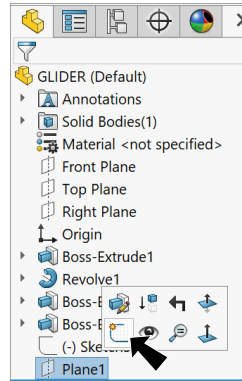

Fig. 41
Step 3. Click **Plane1**  in the Feature Manager and click **Sketch**  on the context toolbar, **Fig. 41**.